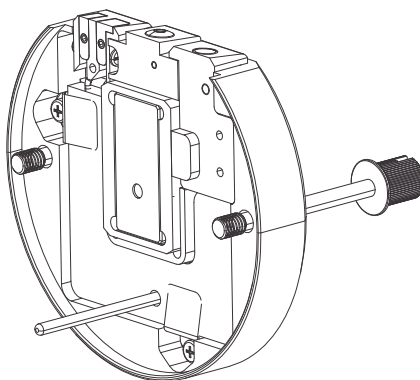

Figure A-4. Front of the IC source heater interface
4. Loosen the two thumbscrews even further and use them to pull out the IC source heater interface (Figure A-4).